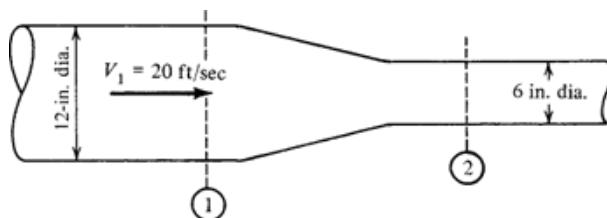

Figure P3.18
- 3.18** 3.18. Seawater ( $\rho = 64 \text{ lbm/ft}^3$ ) flows through the reducer shown in Figure P3.18 with  $p_1 = 50 \text{ psig}$ . The flow losses between the two sections amount to  $b_l = 5.0 \text{ ft-lbf/lbm}$ .